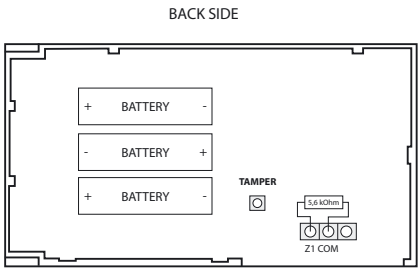

Fig. No. 2
3. **Z1** and **COM** contacts must be connected with resistor of 5,6k Ω nominal (see Fig. No. 2). As keyboard zone Z1 is disabled by default, it can be enabled by SMS, EKB3W keyboard and *ELDES Configuration Tool* software. Keyboard zone **Z1** must be enabled and resistor connected even if the tamper button alone is required.
ATTENTION! Before fixing the keyboard into the holder, please, make sure that the tamper is properly pressed (see Fig. No. 2).